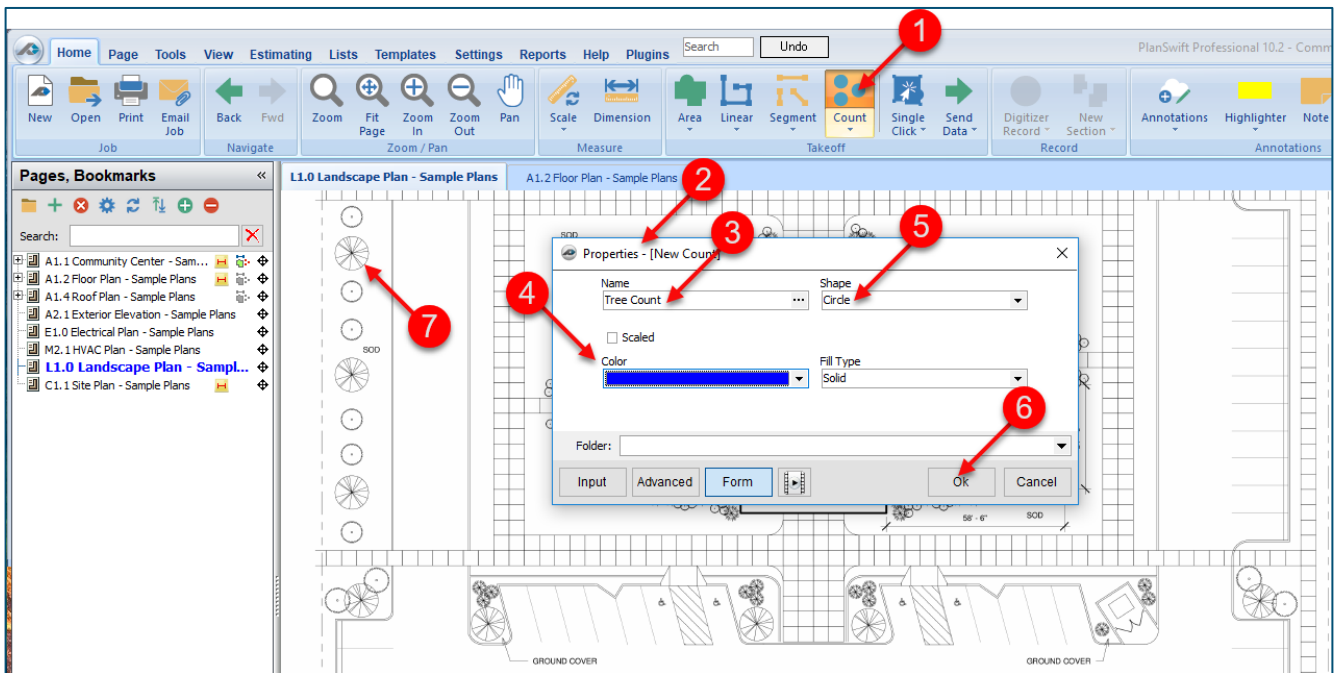

Figure 13-A
- Click on the remaining tree items and press **Esc** to stop the takeoff (Fig. 13-B). Note that pressing **Ctrl + Z** will undo any **Point's** placement.